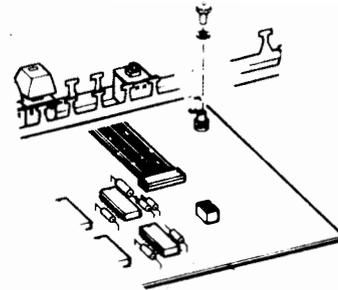

Fig. 26—Screw Removal
- (d) Remove the screw securing the right rear corner of the circuit card to the channel (Fig. 26).